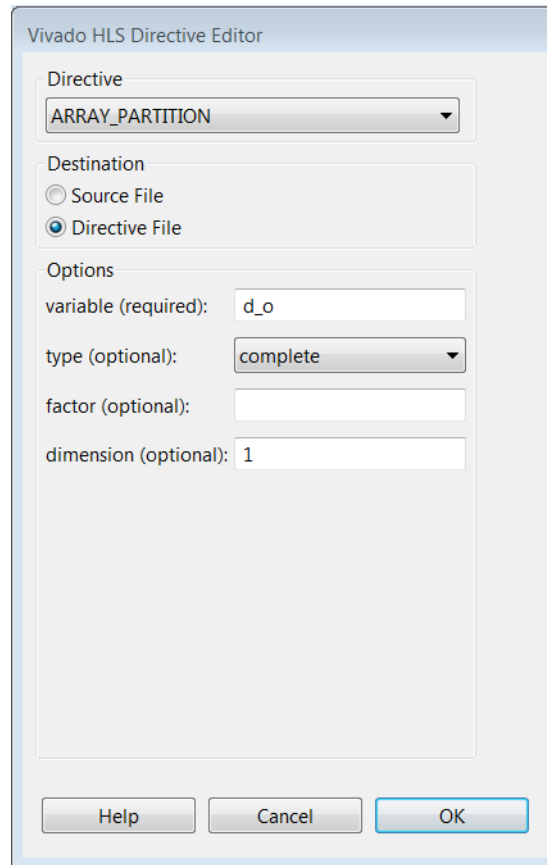

Figure 4-25: Directive Editor for Partitioning Array d_o
- c. With the Directive Editor as shown in Figure 4-25, click **OK**.